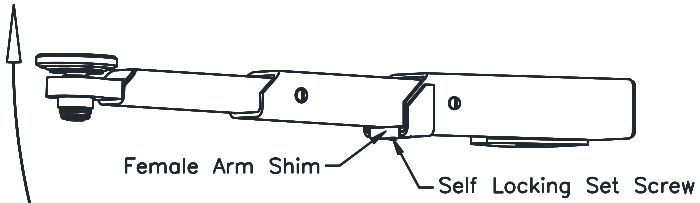

Fig. 23 – Arm Shim, 3-Stage
- 72) Extend the arm fully and lift up on the male portion, **Fig. 23**.